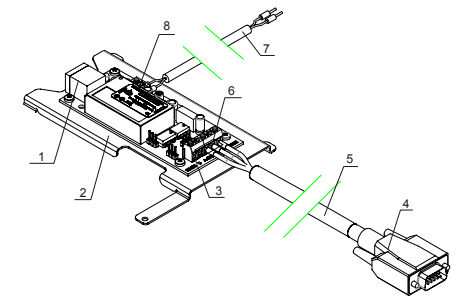

Fig.1
- 1.1.2. Power supply the module (pos.8, fig.1)
2.1.3. Power supply the module (pos.8, fig.1)
Before the assemblage, it is necessary to dismount the board of the module from its base (fig.1, pos.2).